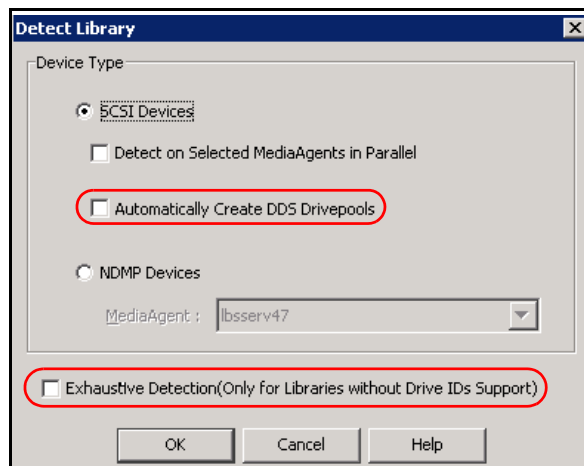

Figure 19-5 Detect new library
7. In the General tab, right-click **Libraries** and click **Detect/Config Devices**. The Detect Library window opens; ensure all the check boxes are clear (Figure 19-5).